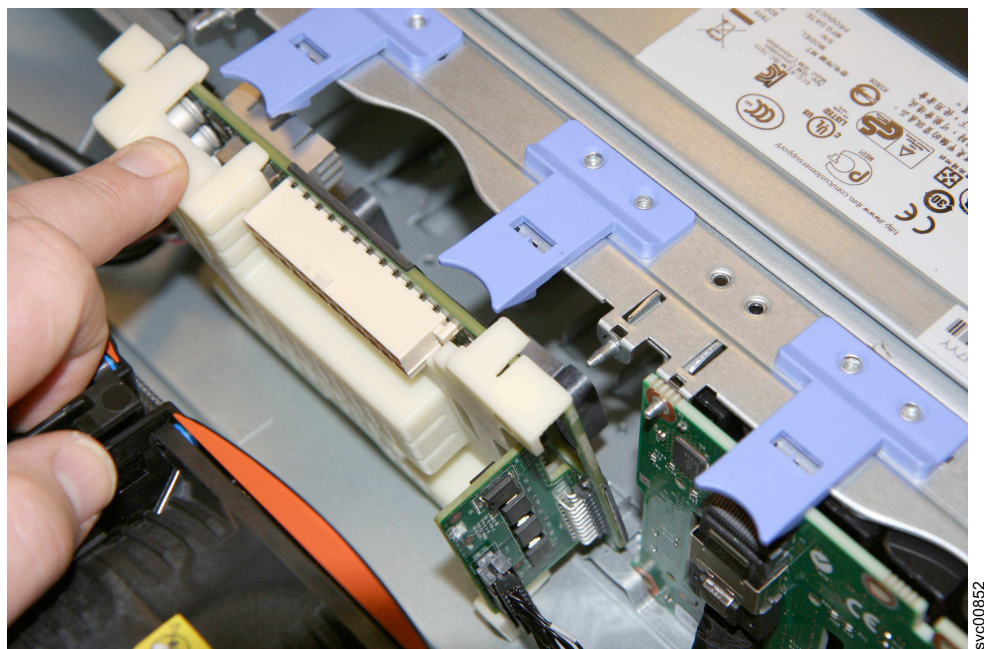

Figure 159. Removing the battery backplane
1. Raise the locking tabs, and slightly pull back and lift the battery backplane from the chassis, as shown in Figure 159 on page 192.